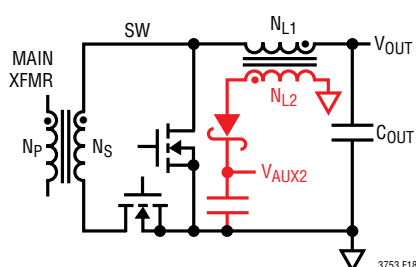

Figure 18. Output Inductor with Overwinding Supply
- (3) Use a custom output inductor with overwinding (Figure 18).